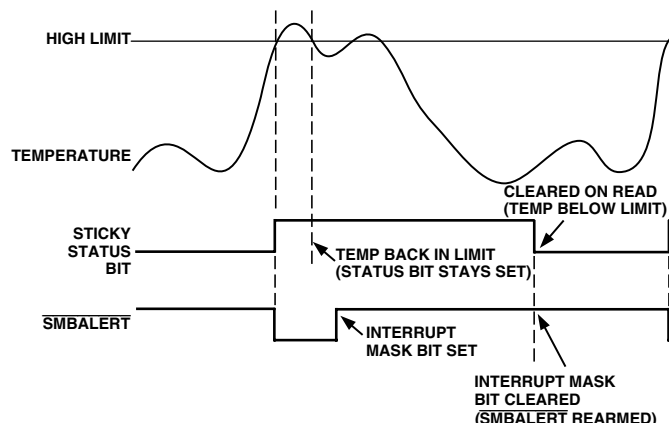

Figure 17. How Masking the Interrupt Source Affects SMBALERT Output
7. Periodically poll the status registers. If the interrupt status bit has cleared, reset the corresponding interrupt mask bit to 0. This will cause the SMBALERT output and status bits to behave as shown in Figure 17.